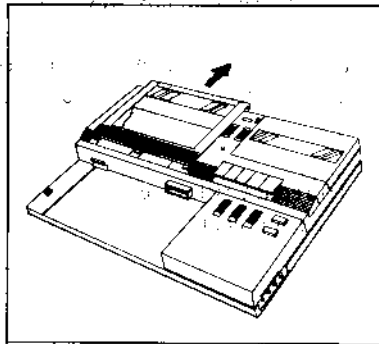

Fig. 2
- (3) Remove the printer cover by sliding it backward (Fig. 2).